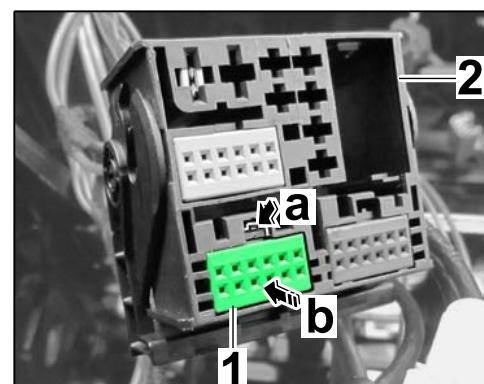

Figure 20
4.4.2 Release green plug socket  $\Rightarrow$  Figure 20-1- ( $\Rightarrow$  Figure 20-a-) and press it out of the PCM central connector  $\Rightarrow$  Figure 20-2- ( $\Rightarrow$  Figure 20-b-).